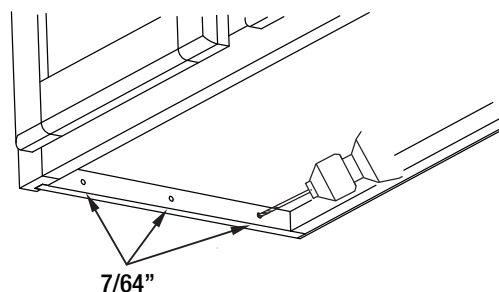

Fig. 19-2
- Set the bracket aside and drill three 7/64" holes in the marked locations as shown in figure 19-2